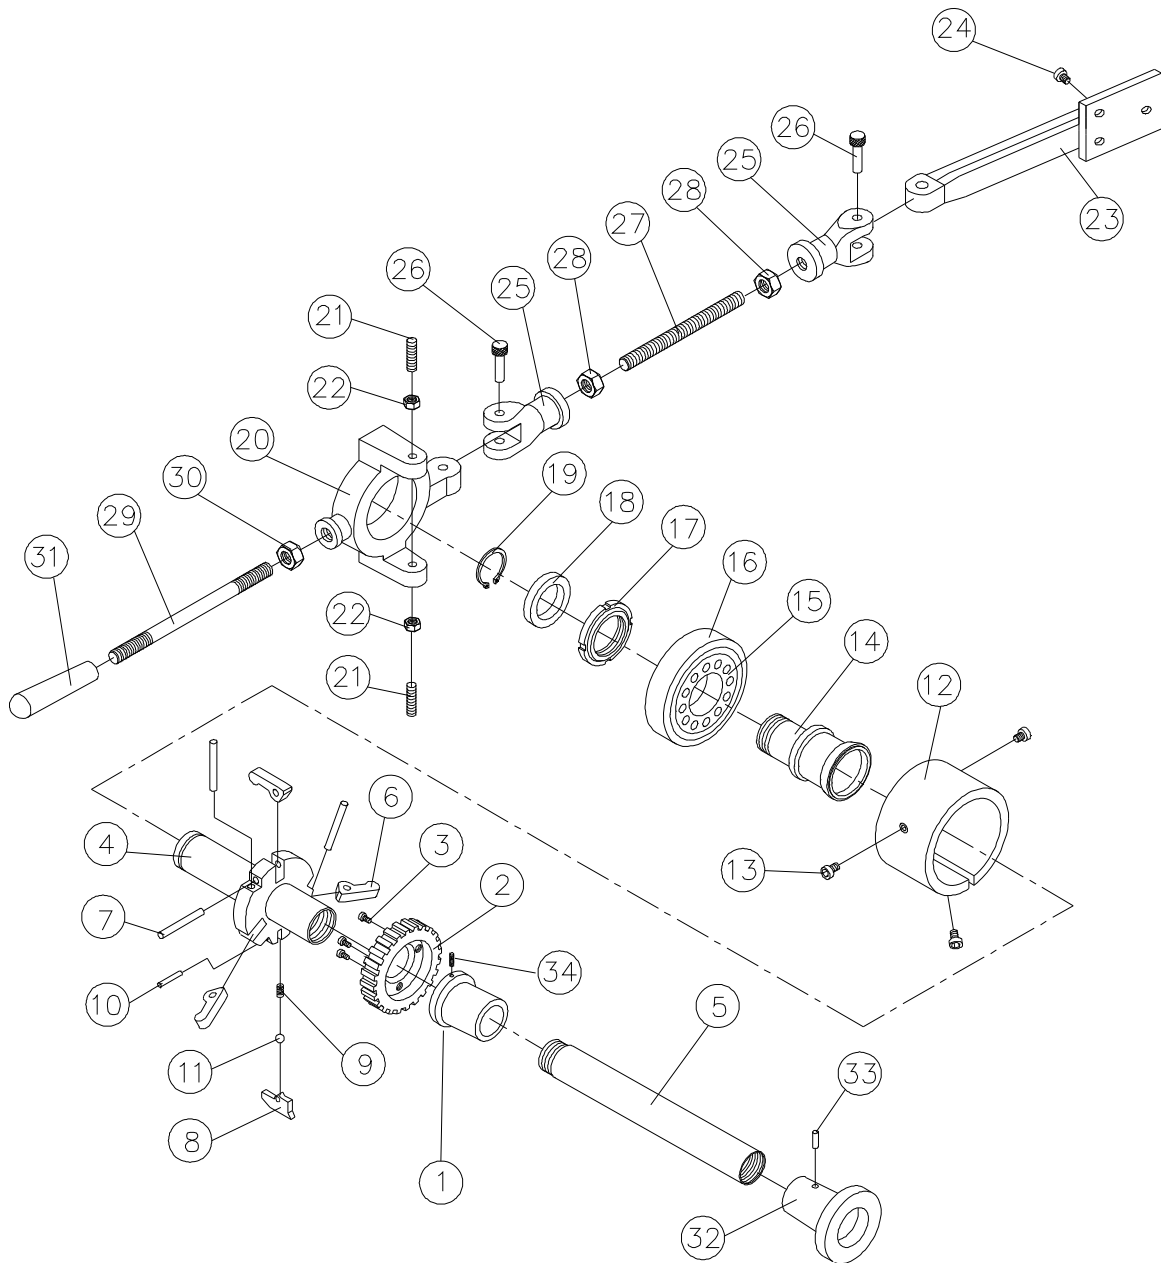

Figure 5
17. Place a cutter or material into the collet so you can adjust the outward flange. Turn the outward flange (Figure 5) until you can move the lever and it "pops" into place locking the cutter or material into the collet.